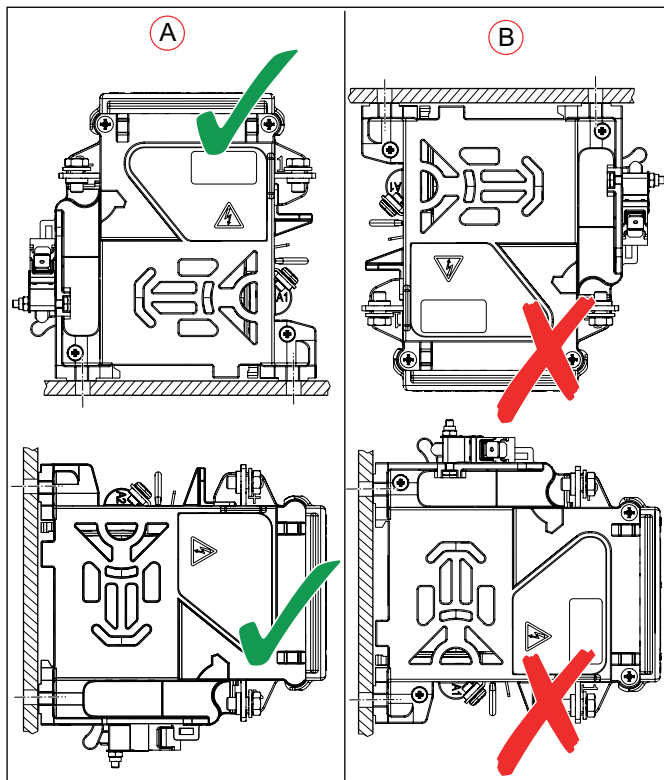
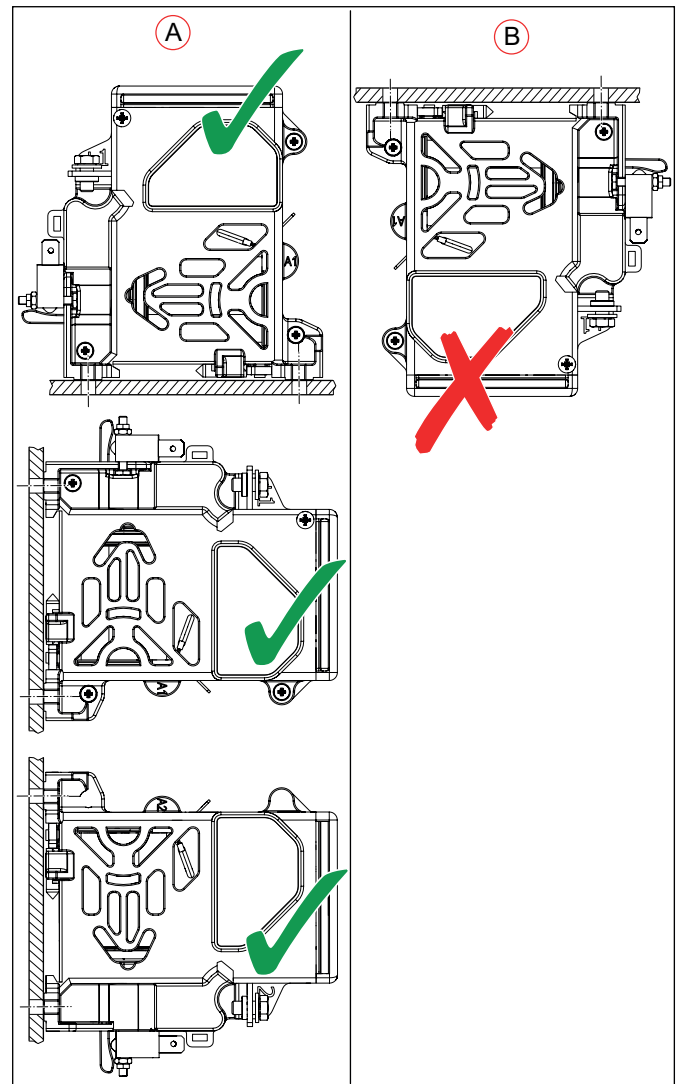

Fig. 5: C294 series - examples for intended mounting positions (A) and non-permissible mounting positions (B)
Fig. 6: C193 series - examples for intended mounting positions (A) and non-permissible mounting positions (B)
Examples for intended mounting positions are shown in *Fig. 5/(A)* and *Fig. 6/(A)*.
- for the C294 series: do not mount upside down, so that mounting plate points upwards or coil terminals point downwards as shown in *Fig. 5/(B)*.
- for the C193 series: do not mount upside down, so that mounting plate points upwards as shown in *Fig. 6/(B)*